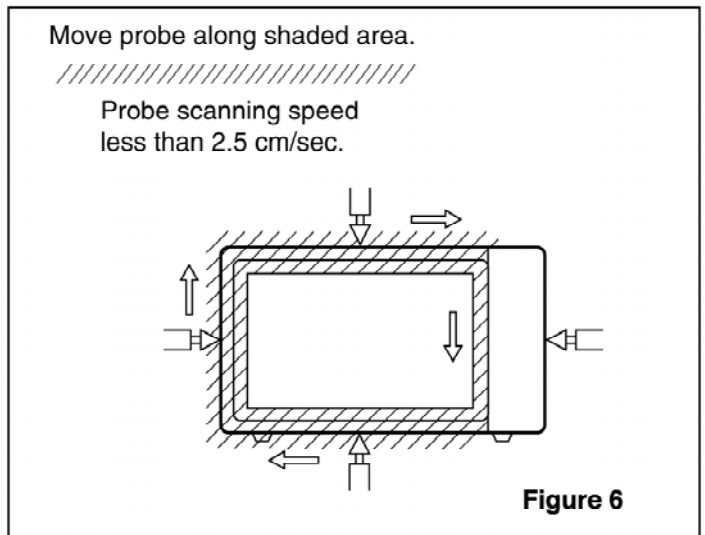

Figure 6
- (1) Pour $275 \pm 15\text{cc}$ of $20 \pm 5^\circ\text{C}$ water in a beaker which is graduated to 600 cc, and place the beaker in the center of the oven.
- (2) Set the energy leakage monitor to 2450 MHz and use it following the manufacturer's recommended test procedure to assure correct result.
- (3) When measuring the leakage, always use the 2 inch (5cm) spacer supplied with the probe.
- (4) Operate the oven at its maximum output.
- (5) Measure the microwave radiation using an electromagnetic radiation monitor by holding the probe perpendicular to the surface being measured. (See Figure 6)